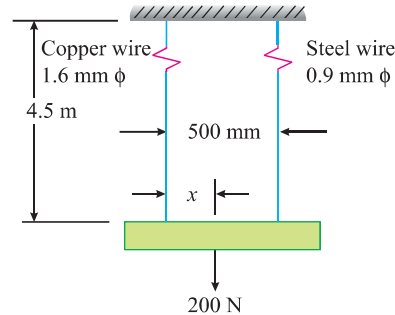

Fig. 4.18
4. Two vertical wires are suspended at a distance of 500 mm apart as shown in Fig. 4.18. Their upper ends are firmly secured and their lower ends support a rigid horizontal bar, which carries a load of 200 N. The left hand wire has a diameter of 1.6 mm and is made of copper, and the right hand wire has a diameter of 0.9 mm and is made of steel. Both wires, initially, are 4.5 metres long. Determine :